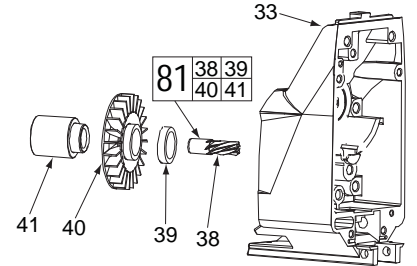

FIG. 2
33,38,39,40,41 Remove Motor Pinion Assembly (81) from Gearcase (33) by placing a 3/32" pin punch into the center counter bore of Pinion (38) and gently tapping assembly until removed from Gearcase (33). See Fig. 2